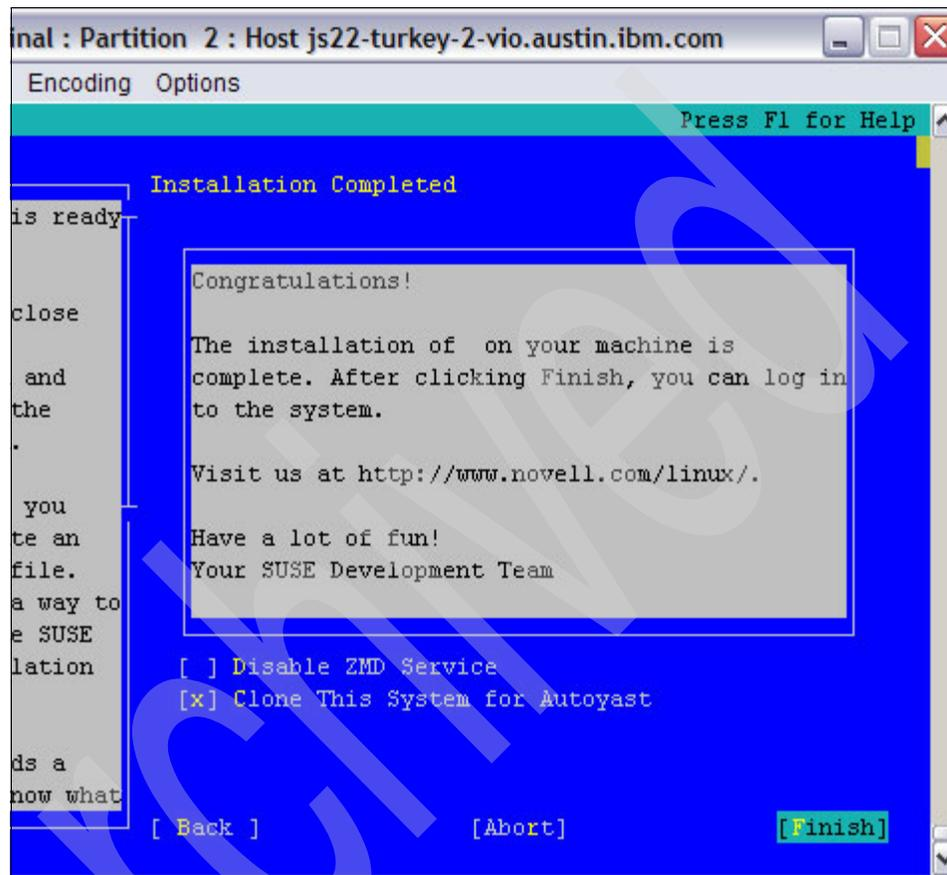

Figure 7-19 Installation completed window
2. Change the Certification Authority (CA) Installation setting, if desired. Select **[Next]** to confirm the changes.
- YaST displays the Installation Completed window (Figure 7-19). Select () **Clone This System for Autoyast** (see “SLES 10 SP2 automated installation” on page 326 for more information) if desired and then select **[Finish]**.
2. In the Installation Completed YaST window (see Figure 7-19 on page 325), select () **Clone This System for Autoyast** and then select **[Finish]**. This creates an Autoyast profile in `/root/autoinst.xml` that is ready for immediate use.